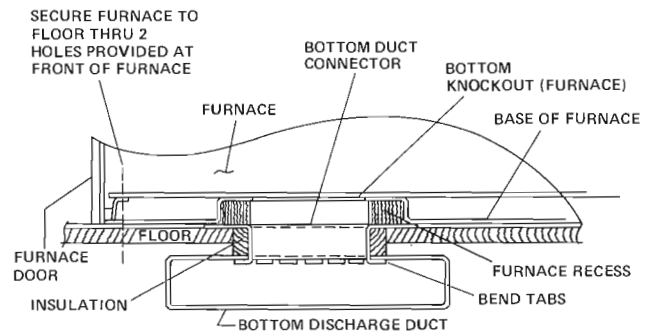

Figure 8
6. Slide furnace in place so duct connector is centered under duct opening in bottom of furnace. Figures 8 and 9.